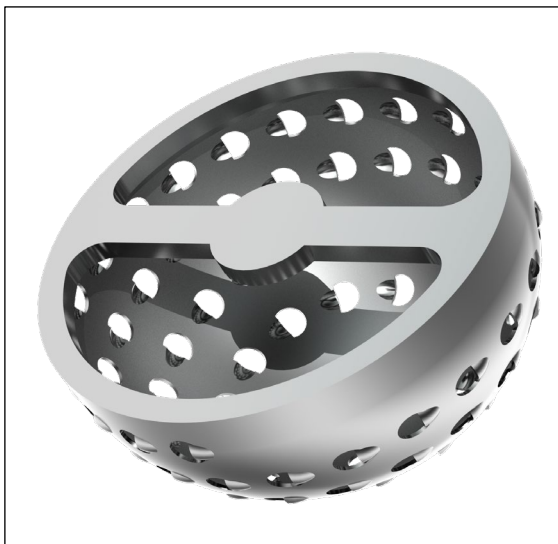

Figure 6: Acetabular Reamer.
- 6b. Referring to the surgical plan and the patient anatomy, determine the correct reamer size to initiate reaming (Figure 6).